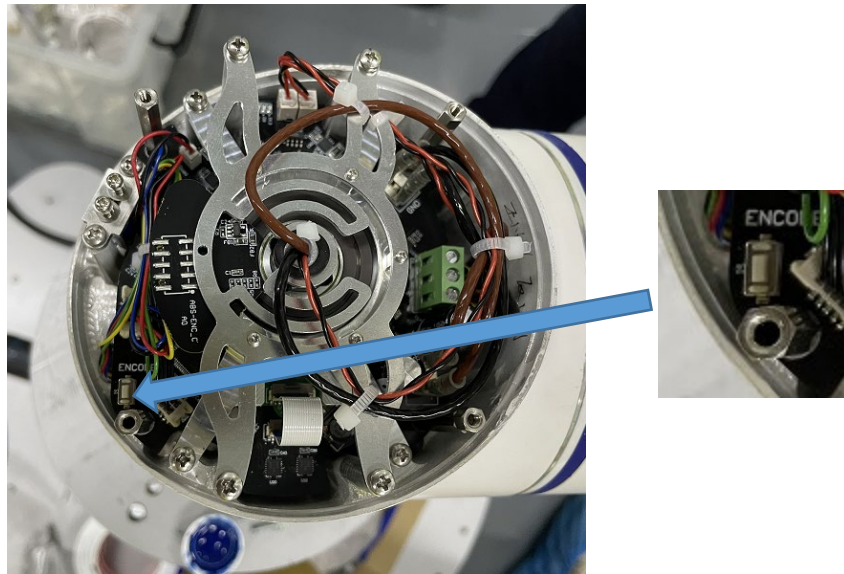

Figure 3-6 White button
- Click the white button as shown in Figure 3-6 lightly, then the flashing light will flash. The times the light flashes is equal to the joint number;